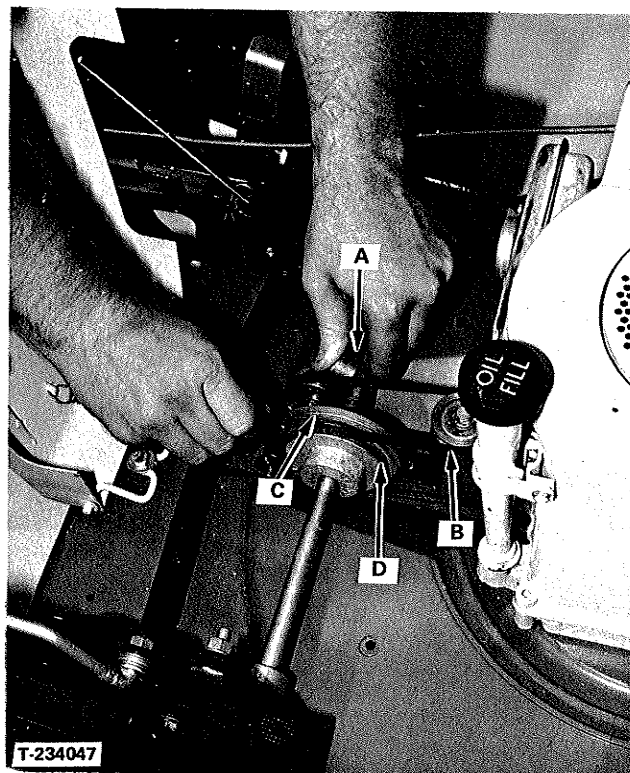

FIGURE 17 - BELT ADJUSTMENT
- Move spring loaded idler arm (A, Figure 17) forward towards the engine to release tension on the belt (B).
- Grasp belt with fingers to pull slack toward the double groove pulley. The large groove (C) is for slow forward speed and the small groove (D) is for a faster forward speed.